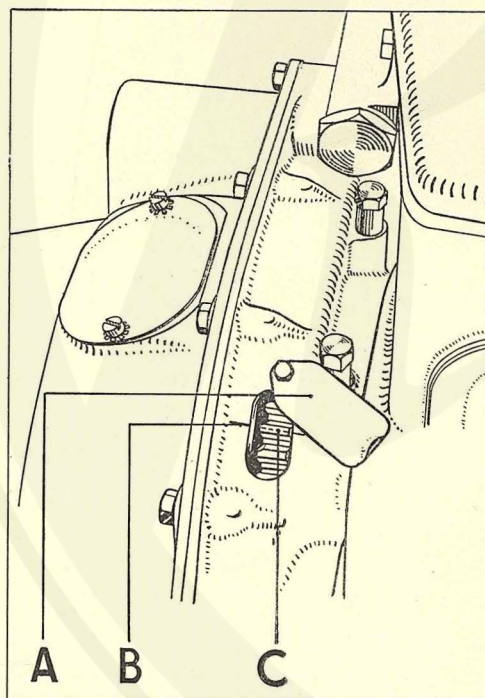

Fig. 11. A, cover ; B, line on casting ; C, punch marks on starter ring tooth.
1. Slide the small cover "A", Fig. 11, on the offside of the engine flywheel housing to one side, to expose the teeth of the starter ring.